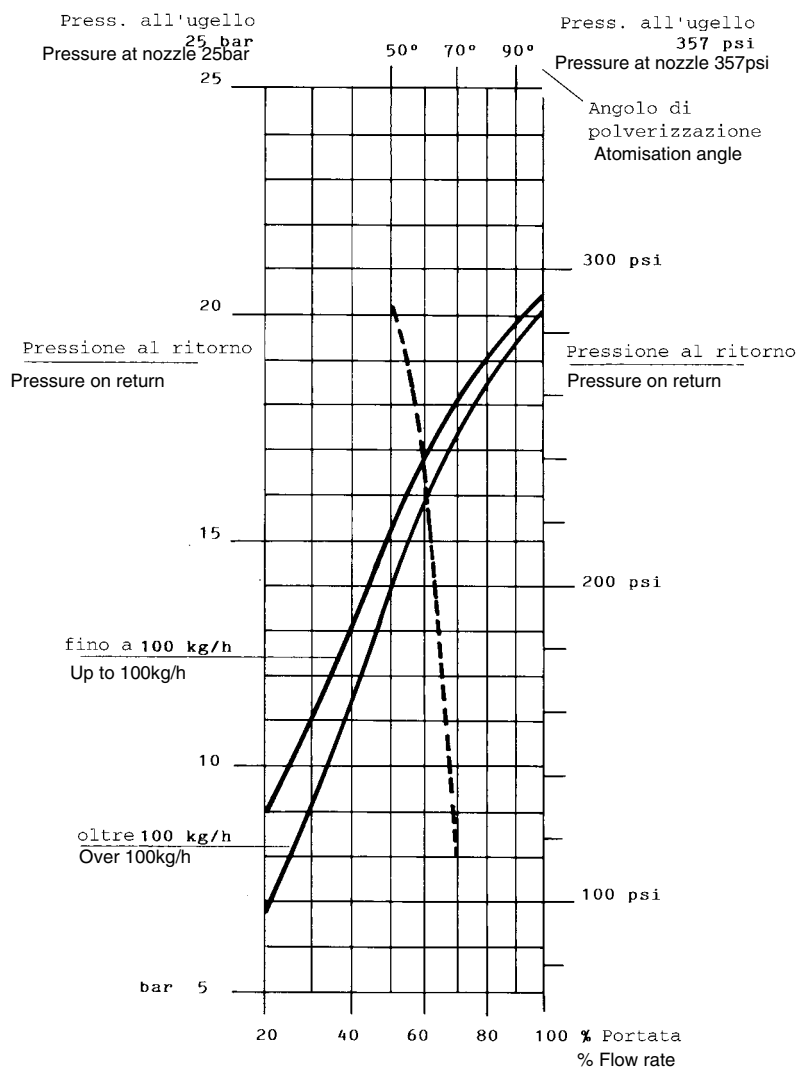

Fig. 10
**Example:** as for over 100kg/h nozzles, the 80% of the nozzle flow rate can be obtained with a return pressure at about 18bar (see Fig. 10).